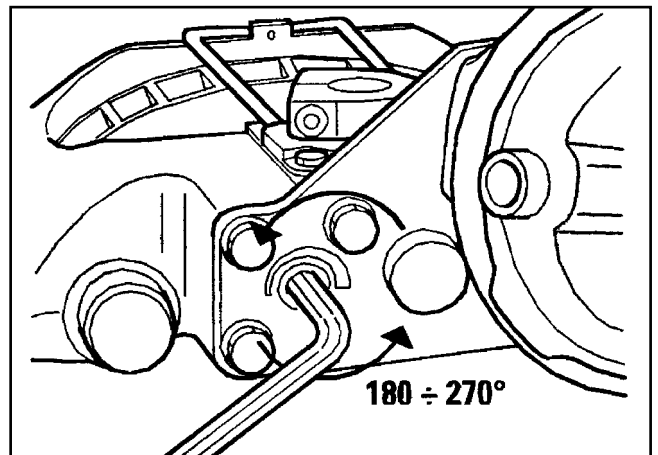

FIG. 4
2. Position a 6mm allen key into the manual adjuster port and leave in place. (See Figure 4).